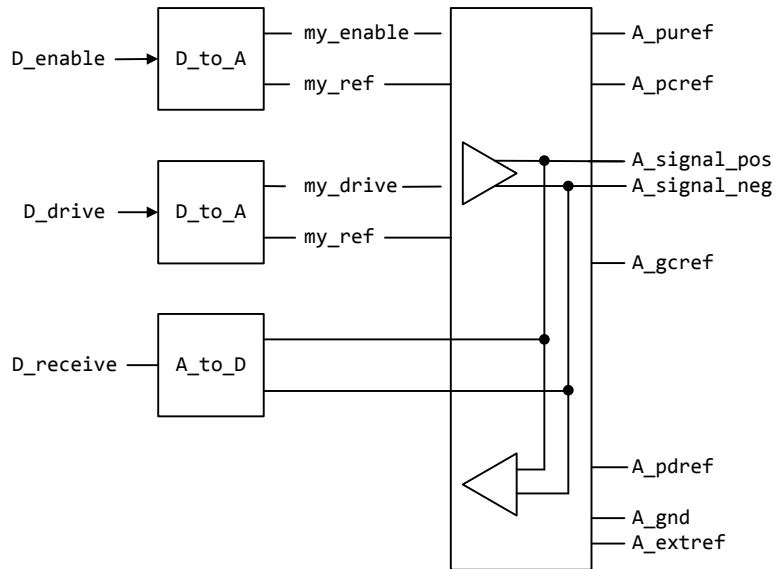

Figure 29 – Example SPICE, Verilog-A(MS) or VHDL-A(MS) Implementation of a True Differential Buffer
The D_to_A or A_to_D adapters used for SPICE, Verilog-A(MS) or VHDL-A(MS) files may be set up to control or respond to true differential ports. An example is shown in **Figure 29**.